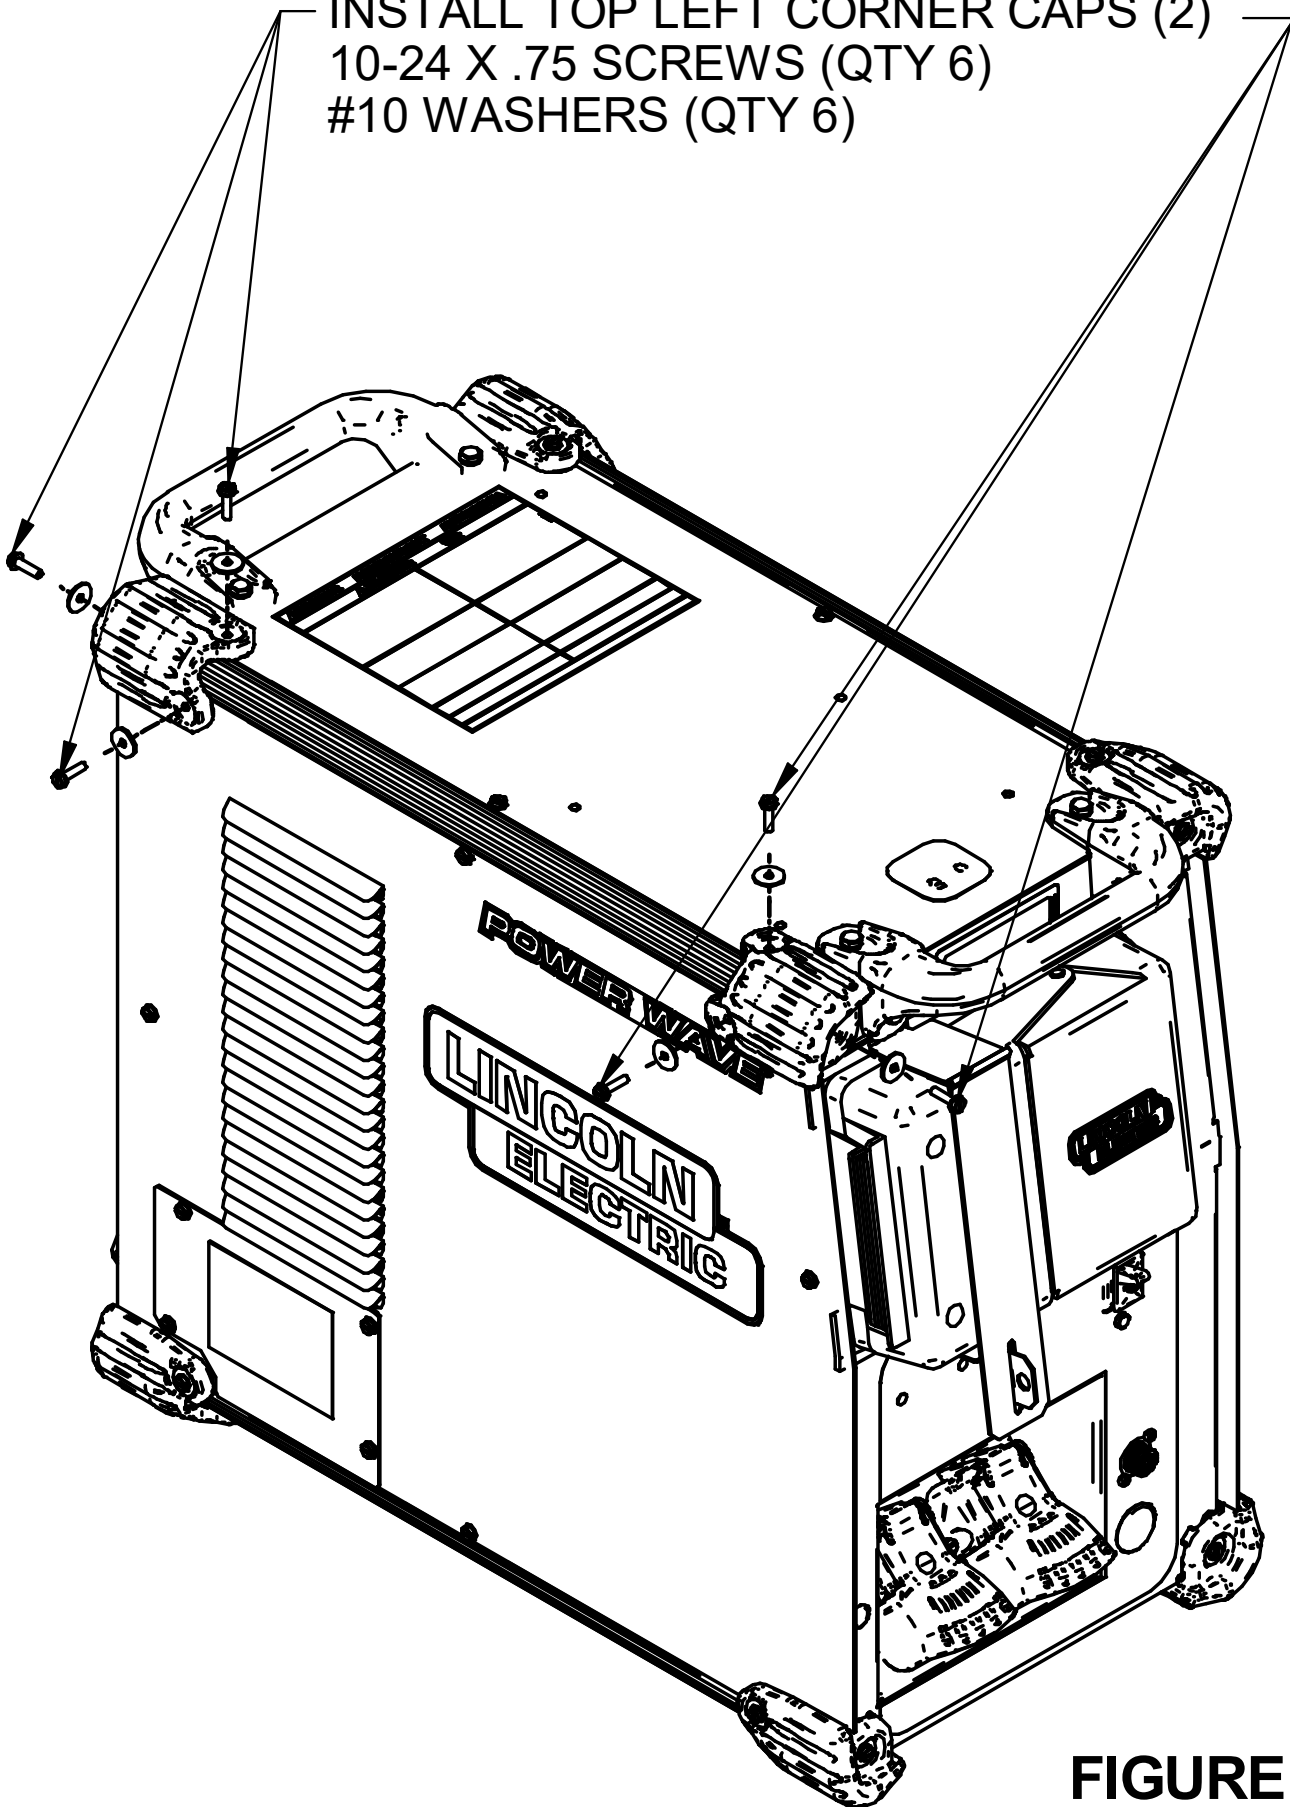

FIGURE 8
11. Install the top left Corner Caps by using the hardware removed from mounting the Corner Caps in step 5, using a 5/16" nut driver or other suitable tool (**Figure 8**).
10. Secure cover to assembly with provided #6-32 x .25 screws, then install the roof using the hardware removed from roof in Step 6, using a 5/16" nut driver or other suitable tool (**Figure 8**).